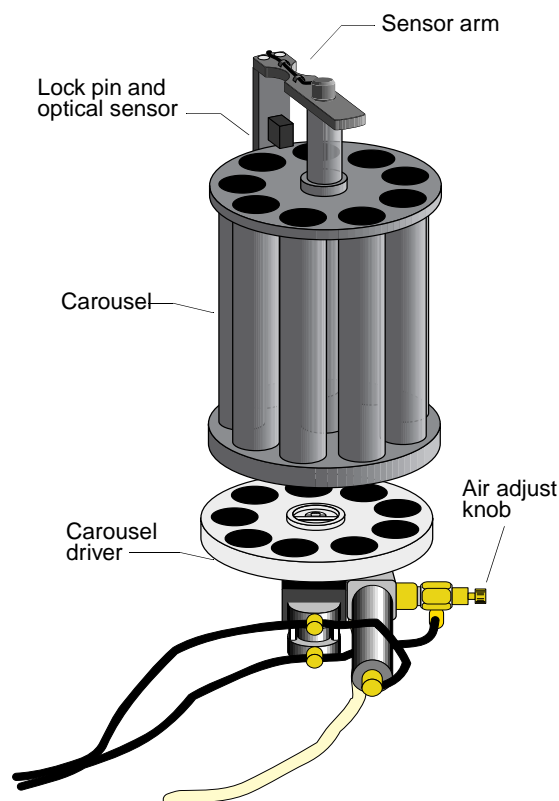

Figure 60. Carousel Autosampler Carousel and Driver
- Remove the carousel from the driver (Figure 60 is an illustration of the carousel and driver).